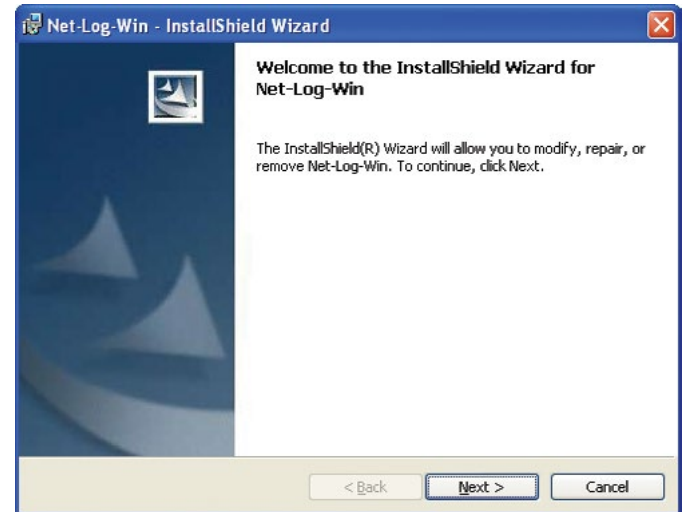

Fig 3-4 : Net-Log-Win Installation
3. The installation starts by displaying a web page that has links to several software packages from Sonifex. Locate Net-Log-Win from the list and click on the link provided. The Net-Log-Win installation will begin as shown in Fig 3-4. Simply follow the on screen instructions to proceed. During the installation, Set-up will attempt to detect what version, if any, of DirectX is installed.